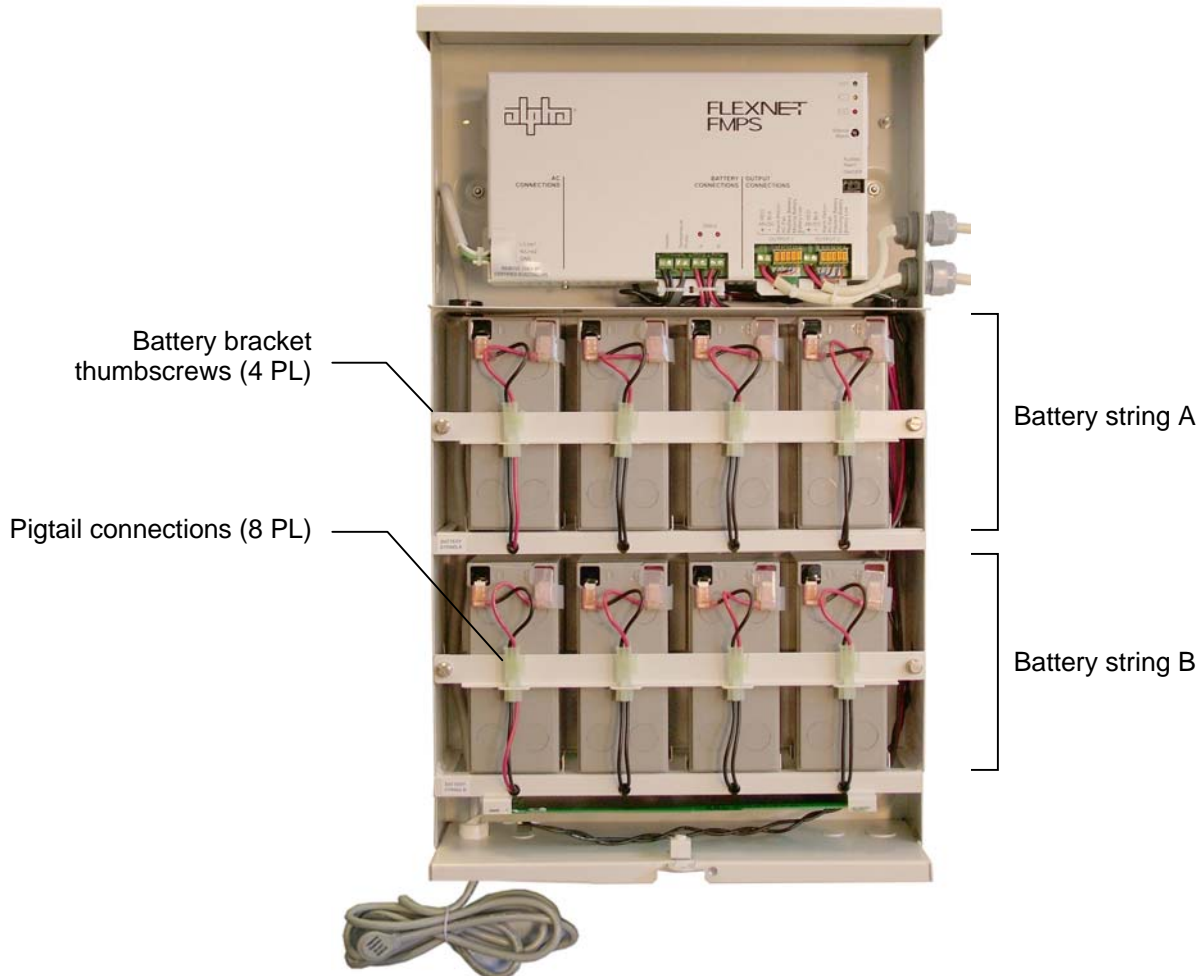

Figure 11—Installing the batteries
- Secure the battery bracket thumbscrews. See Figure 11.